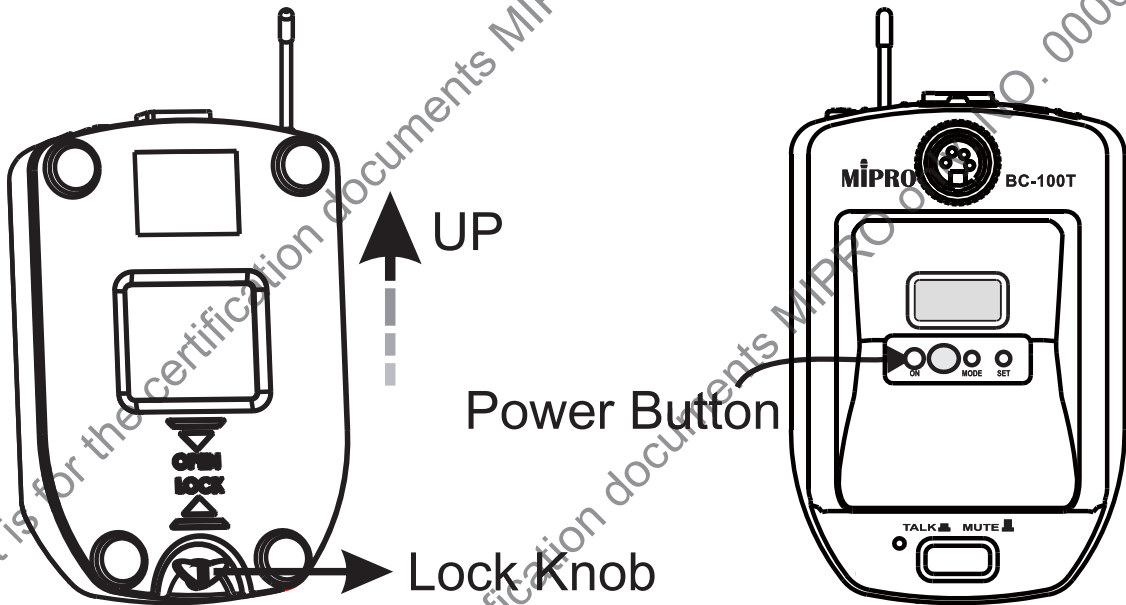

Fig. 4
- Align and push up the Base Cover ⑫ and turn the knob ⑭ 180° for a secured closure. Push and hold Power Button ⑥ for 2 second to power on, Fig. 4.